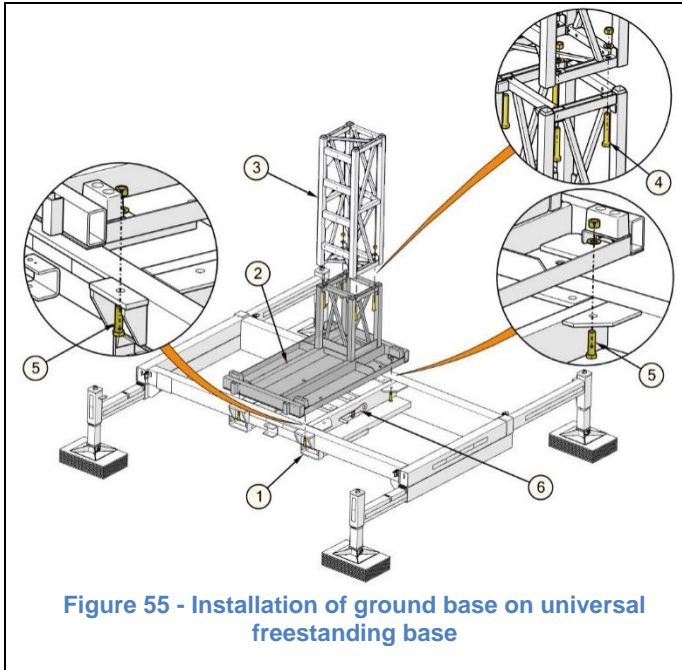

Figure 55 - Installation of ground base on universal freestanding base
**Step 4** – Install the bolted base (14030019) or the bolted base (14030110) directly on to the universal freestanding base (14030109) as shown in Figure 55. Then, bolt the first mast section of the lifting unit (13030041) to the ground base (14030019) or the bolted base (14030110).
**Step 4** – Install the ground base (14030019) or the bolted base (14030110) directly onto the 20K universal freestanding base (14030053) as shown in Figure 55. Then, bolt the first mast section of the lifting unit (13030041) to the ground base (14030019) or the bolted base (14030110).